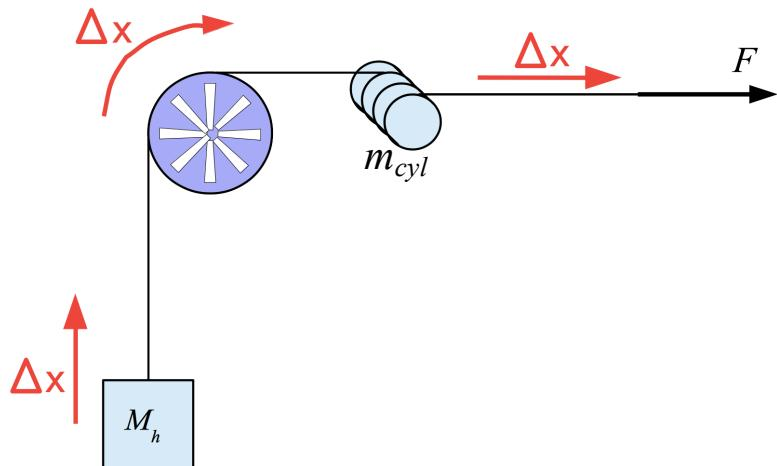
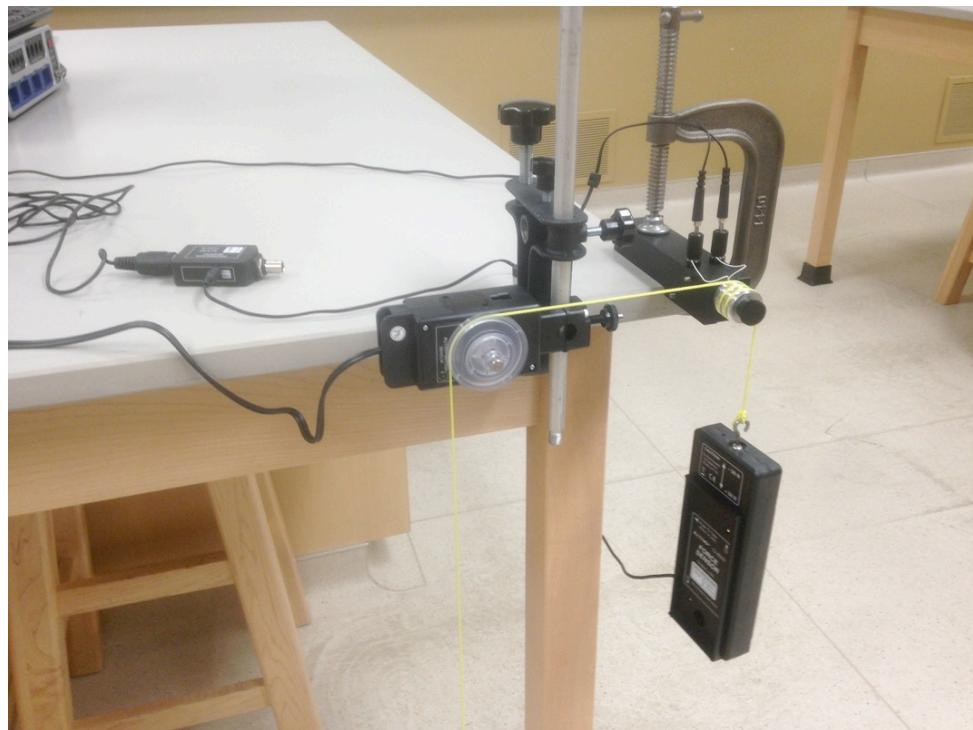

Figure 1 – Sketch of the experiment
Figure 2 - Friction Apparatus, assembled and ready for data collection
A sketch of the friction apparatus is shown in Figure 1. The actual apparatus is presented more clearly in Figure 2. In the discussion that follows, refer to both Figures 1 and 2 for better understanding.
The cylinder (of mass m_{cyl}) shown in Figure 1 is constructed of aluminum and designed to have a rope wound around it in several turns. The basic principle is to adjust the rope on the cylinder so that when pulling on the rope to lift a mass, a sufficiently large frictional force is created between the rope and the cylinder so that its temperature rises. This slipping and sliding action of the rope against the cylinder does work and creates a small scale vibration within the aluminum that results in an increase in the molecular kinetic energy within the aluminum, hence, giving rise to an increase in temperature in the aluminum cylinder.
The cylinder's temperature (T) will be measured by a Thermistor Sensor. The force applied by the student (F) will be measured by a Force Sensor. When the mass moves, the distance of travel (Δx) will be measured by a Rotary Motion Sensor (this is a kind of smart pulley, whose radius is known to the computer, and so it can translate rotational motion into linear motion of arc length, as shown in Figure 1.)
4. Use a table clamp and metal rod to mount a Rotary Motion Sensor to the table (see Figure 2).
6. With one hand, hold the hanging mass while you use the other hand to wind the string over the Rotary Motion Sensor's wheel, and then through the grooves of the aluminum cylinder. It should now look something like Figure 2.